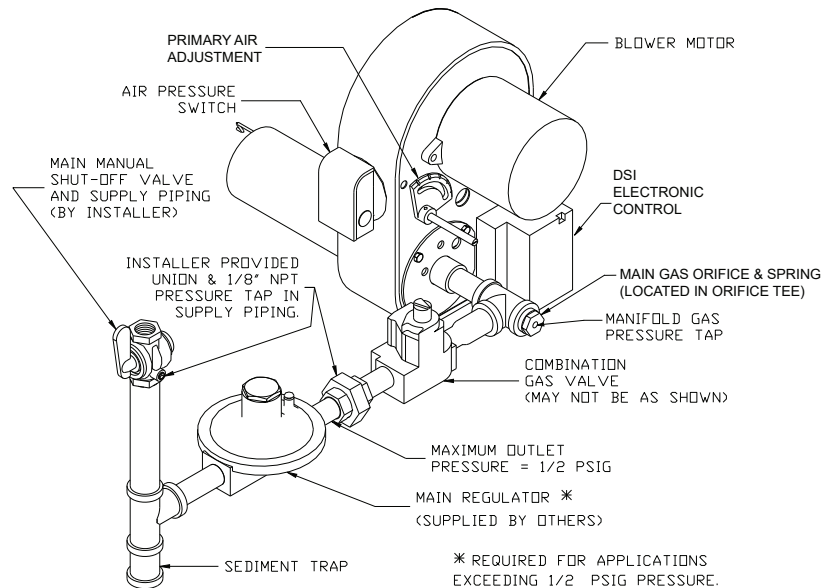

Figure 6 -
▲ CAUTION: The available gas pressure should be within the limits shown in Table 1 - SPECIFICATIONS section. Excessive pressure may damage electric valves, regulators and manual valves. If the supply pressure exceeds the 14.0" W.C. maximum, a suitable high pressure regulator must be installed between the Main Manual Shut-Off Valve and burner combination valve as shown in Figure 6.
- Provide a sediment trap, union and 1/8" pressure tap in piping close to burner as shown in Figure 6.
- If the burner piping must be rearranged because of space limitation, be sure to carry out the general arrangement shown in Figure 6. Install the combination valve in any position except up-side down.